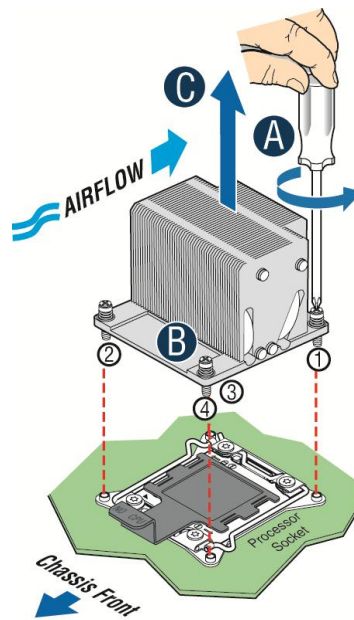

Figure 37. Removing Processor Heatsink
1. Remove the processor heatsink, see Figure 37